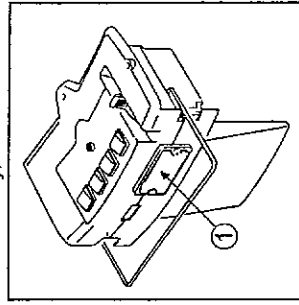

Fig. 17
- remove the fuse cover (fig. 17, ref. 1);
Models with battery: the 60A fuse, which protects the brush motor, is in the fuse-holder (fig. 17, ref. 2) that is fixed to the solution tank inside the battery compartment of the machine.